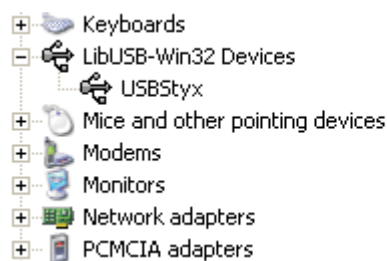

Figure 21. USBStyx Driver Verification Using Device Manager
- Step 5. You can verify the proper installation of the USBStyx driver using the Device Manager. Note that the first driver item, **NI-VISA USB Devices**, will disappear and a new item, **LibUSB-Win32 Devices** will appear, as Figure 21 shows.